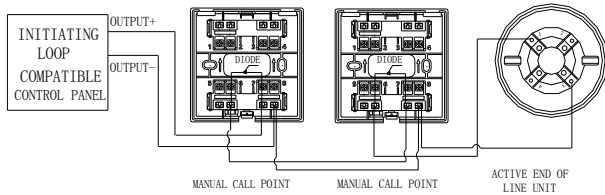

Fig. 4
- The Active End of Line Unit can be used as the base of a conventional detector. The system composition is shown in Fig. 4.